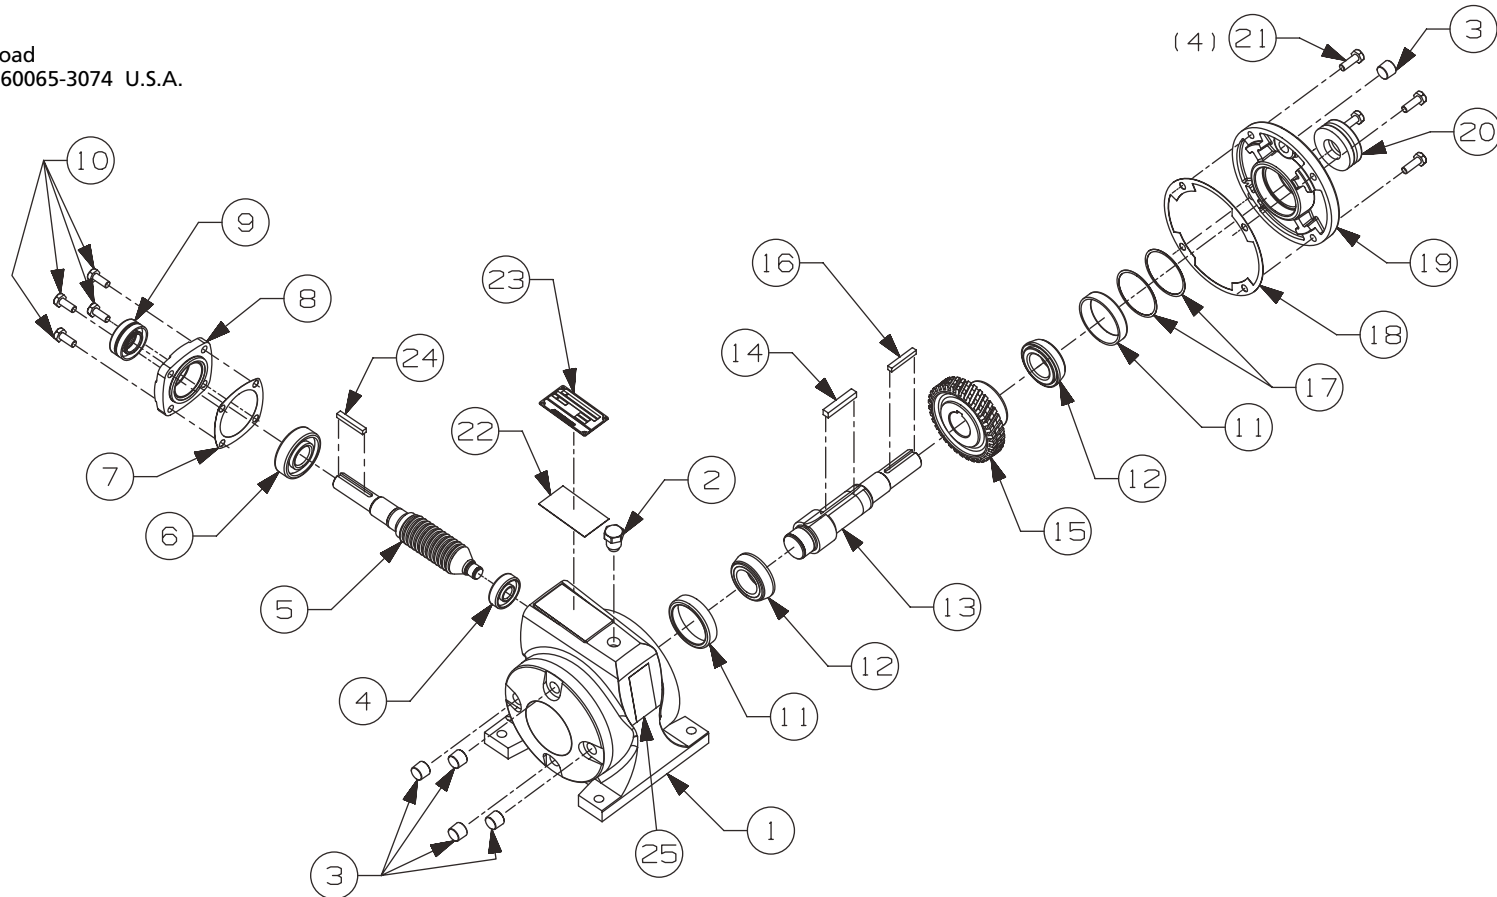

Figure 5 – Repair Parts Illustration
- a. Reassemble unit, beginning with the same shim stack thickness behind the bearing cup in the housing cover as before. Oil seal (Ref. Figure 5 No. 20) should be removed from cover until shimming process is completed and rotation checked to avoid damage to seal from possible repetitious disassemblies of cover.
- b. Install new gasket (Ref. Figure 5 No. 18) if required.
- c. As the capscrews (Ref. Figure 5 No. 21) holding the housing cover (Ref. Figure 5 No. 19) are being tightened, pull shaft back and
- b. The oil seal in the bearing cap assembly (Ref. Figure 5 No. 9) is preassembled in the cap. Use bearing grease to coat seal surface on shaft for initial run and pack same grease between lips on seal and on side of seal towards inside of unit.
5. If unit has been disassembled and no parts including the gasket (Ref. Figure 5 No. 18) have been replaced, no change in the shim stack (Ref. Figure 5 No. 17) should be required unless due to wear on parts. (Check end play before disassembly).